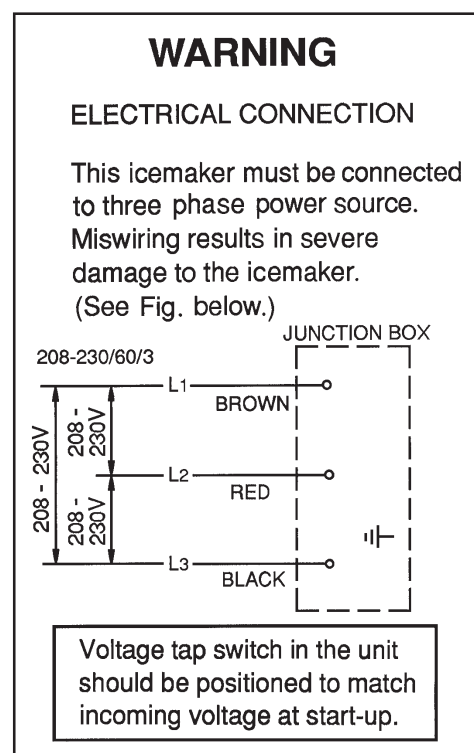

Fig. 8b
- On three phase models, the transformer's voltage tap switch must be positioned to match incoming voltage at startup. See Fig. 8b.